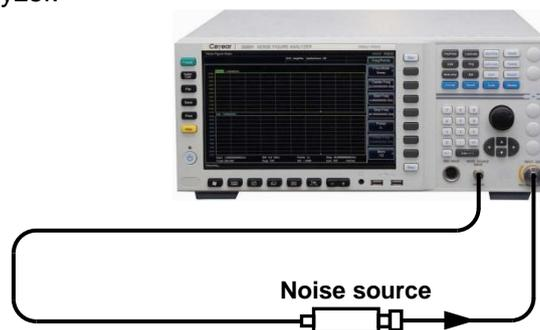

Fig. 4.9 Diagram of Calibration Connection with Normal Noise Source
- Step 7.** As shown in Fig.4.9, connect the noise source drive input end to the +28V noise source drive port on the noise figure analyzer panel with a BNC cable. (When an smart noise source is used, connect the noise source to the smart noise source drive port on the noise figure analyzer panel with a multi-core cable), and connect the noise source output to the input port (50Ω) of the noise figure analyzer.